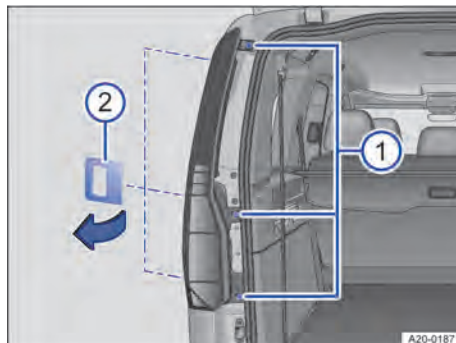

Fig. 186 At the rear left side of the vehicle: removing the tail lamp cluster.
- ① Securing bolts.
- ② Auxiliary tool.
1. Undo securing screws with a screwdriver → Fig. 186 ①. Insert a suitable interchangeable blade if necessary.
2. Pry the tail lamp cluster out of the holder from top to bottom using the auxiliary tool → Fig. 186 ②.
5. Insert the tail lamp cluster into the opening in the body and carefully press into the holder → Fig. 186.
6. Tighten the securing screws → Fig. 186 ①.